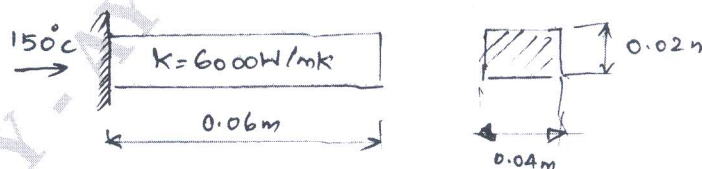

Fig.Q10(b)
- b. Determine the temperature distribution in the rectangular fin shown in Fig.Q10(b). Neglect the convection heat transfer and assume heat generated inside the fin as 500W/m^3 .